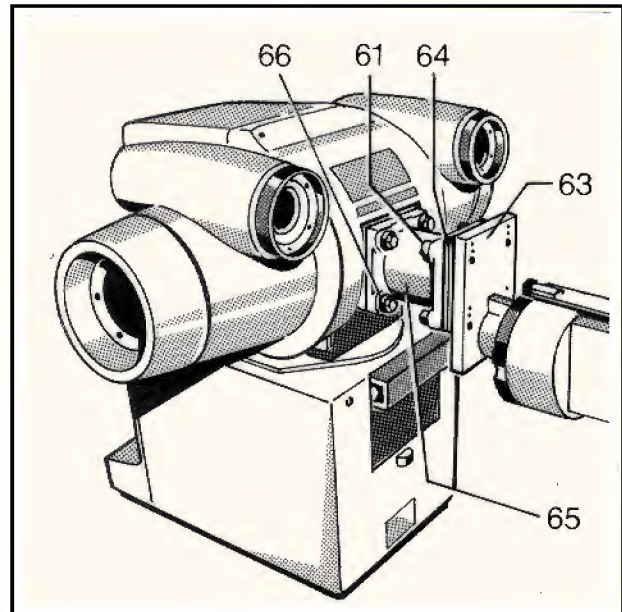

Fig. 16
Fasten spacer (Fig. 16/item 65) to X-ray tube with screws (item 66) and mount to tube support arm (item 63).
**Note:** The center of gravity of the tube-collimator assembly should lay in the rotational axis of the tube support arm. If necessary, the distance focus-column centre may be increased by inserting shims (item 64). Mount tube to trunnions and connect cable with plug of collimator.